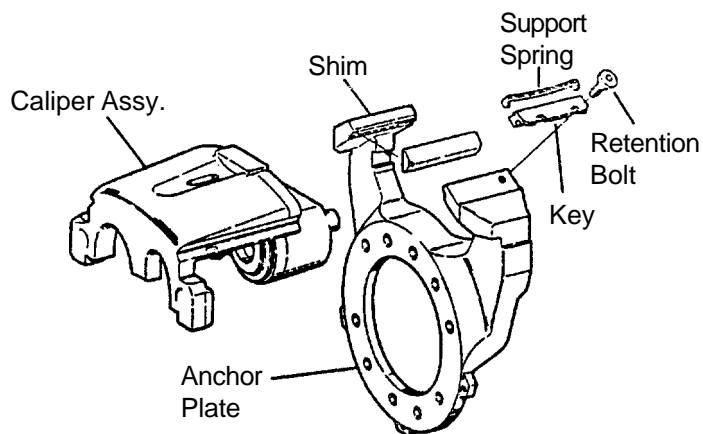

Figure 3
1. Remove the caliper assembly from the anchor plate and install for selected shim on the anchor plate V-way opposite to the key and spring V-way as illustrated in Figure 3.